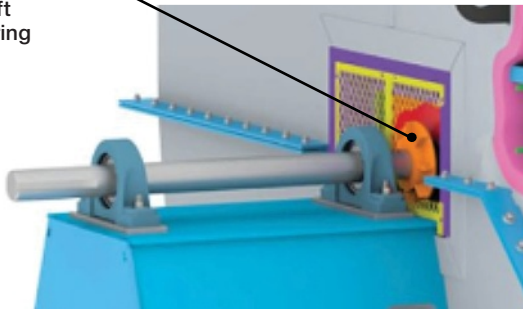

FIGURE 5. Solid shafts with heat slingers.
- Solid shafts with heat slingers, for temperatures up to 900°F (482°C) (Figure 5).